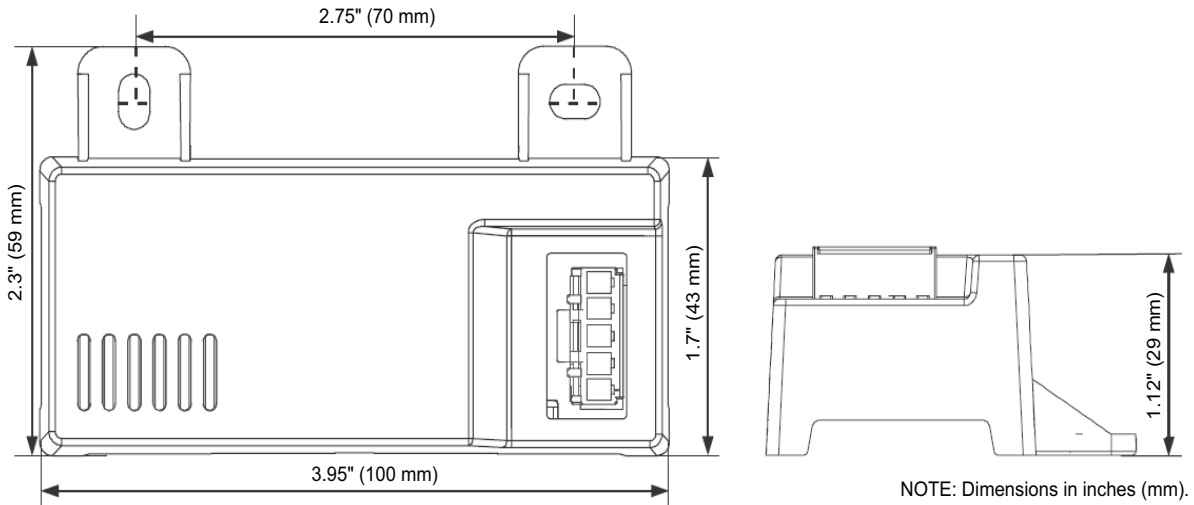
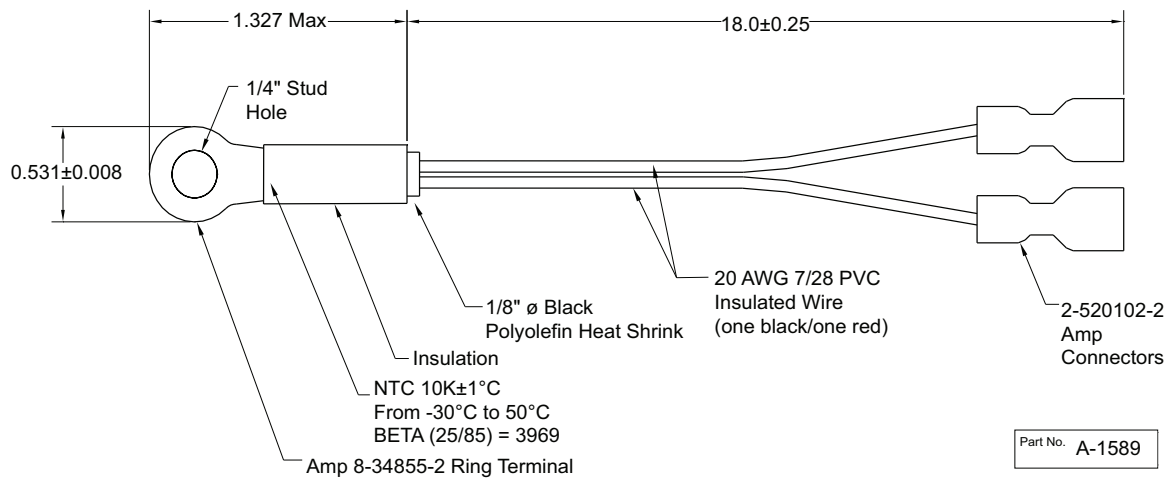
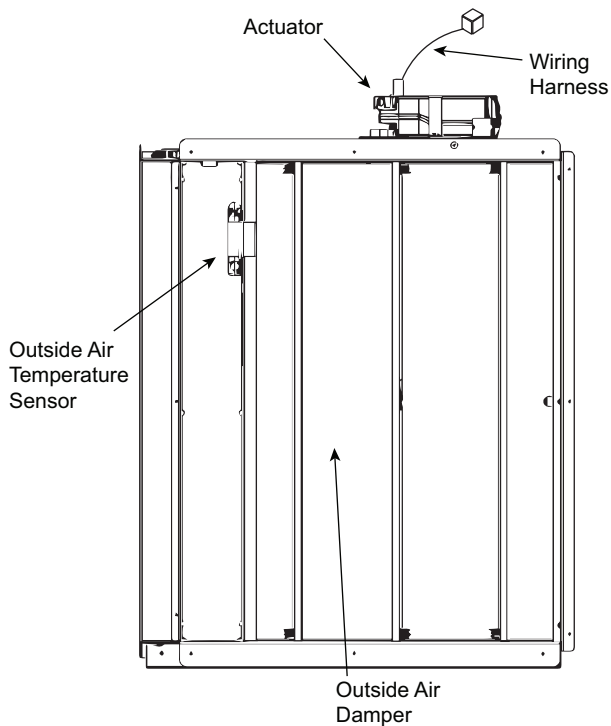

Fig. 69 – HH57LW001 Dimensional, Connection and Switching Information
Fig. 70 – HH79NZ039 Dry Bulb and Mixed Air Sensor Wiring
Fig. 71 – EconomizerONE Component Locations (CRECOMZR108A00 Shown)
When using the HH57LW001 enthalpy sensor (see Fig. 69) for outside air changeover, the existing HH79NZ039 dry bulb sensor (see Fig. 70) must be removed. The enthalpy sensor will be mounted in the same location as the dry bulb sensor (see Fig. 71). When the enthalpy sensor's OA (Outside Air) temperature, enthalpy, and dew point are below their respective setpoints, the outside air can be used for free cooling. When any of these are above the setpoint, free cooling will not be available. Enthalpy setpoints are configurable and create an enthalpy boundary according to the user's input. For additional details, see Fig. 72-73 and Table 30.
The optional enthalpy control sensor (P/N: HH57LW001) communicates with the POL224 economizer controller using the 5-wire harness, 48TC005213. The HH57LW001 sensor can be used as a single outside air enthalpy, a differential return enthalpy, or a differential return temperature sensor. Refer to the base unit control wiring diagrams found earlier in this book to wire the HH57LW001 enthalpy sensor for each option. Use Fig. 69 and Table 32 on page 60 to locate the wiring terminals for each enthalpy control sensor.
Economizers are shipped standard with an HH79NZ039 outside air dry bulb sensor (see Fig. 70). System default setting (high temp limit) is 63°F (17°C) and has a range of 48°F to 80°F (9°C to 27°C). Sensor is factory installed on economizer.
If installing the optional HH57LW001 enthalpy sensor, the HH79NZ039 dry bulb outside air sensor must first be removed. Wire sensor to harness 48TC005213 and the (5) wires from the harness to the EconomizerONE harness in the return air chamber. Harness 48TC005213 has a 5-pin plug that connects directly to the HH57LW001 enthalpy sensor. Refer to the base unit control wiring diagrams earlier in this book for wiring connections. Refer to Fig. 69 and Table 32.